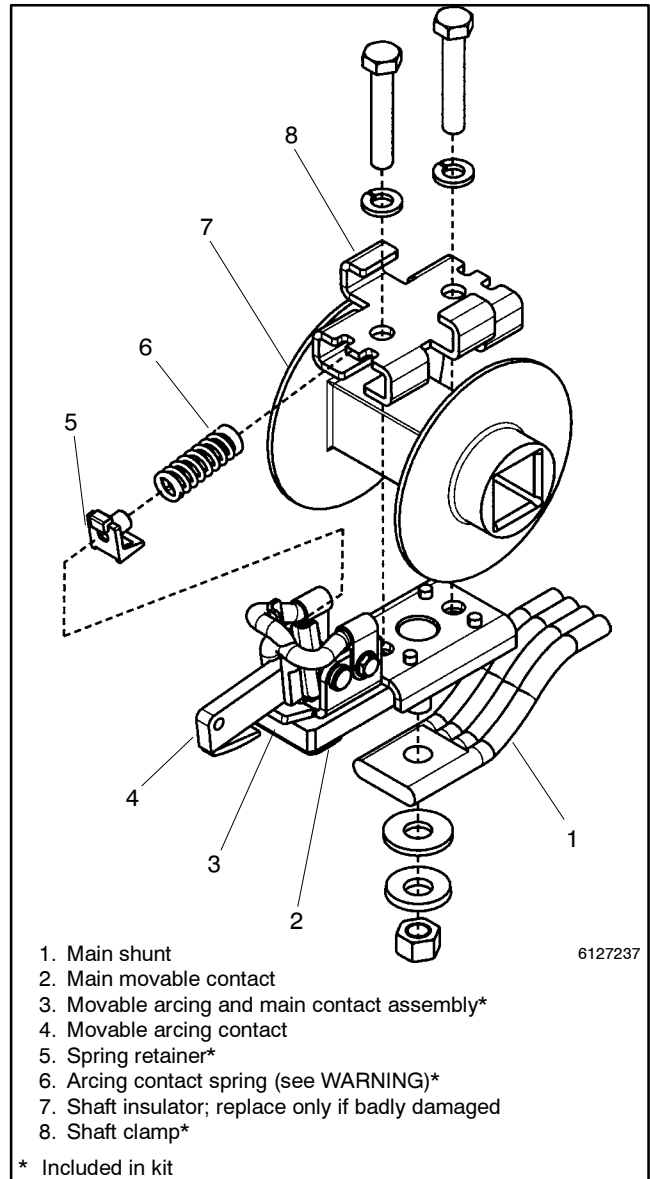

Figure 8-13 Movable Main Contact Assembly
2. Disconnect the main shunt. Use a 3/8 in. open-end or box wrench to remove the hex nut (with disc and flat washers) that secures the main shunt to the bottom of the main movable contact assembly. See Figure 8-13.
Then remove the spring and spring retainer. See Figure 8-13.
4. Disconnect the main shunt. Use a 3/8 in. open-end or box wrench to remove the hex nut (with disc and flat washers) that secures the main shunt to the bottom of the main movable contact assembly. See Figure 8-13.
5. Remove the shaft clamp and movable contact assembly. Use a 5/16 in. socket wrench to remove the two hex head bolts (with lock washers) that secure the movable contact assembly and shaft clamp to the shaft. See Figure 8-13.
6. Install the new movable contact assembly. Position the new movable contact assembly under the shaft (align protrusions on both side). Secure it by installing the new shaft clamp and the new 5/16-18 x 1 3/4 in. long hex head bolts with split lock washers. Tighten both bolts to 5 ft. lb., then continue tightening them to 11 ft. lb. See Figure 8-13.
7. Reconnect the main shunt. Make sure the main shunt and new movable contact assembly surfaces are clean (do not use any abrasive). Position the main shunt under the movable contact assembly (onto the stud) and secure it with a new 3/8 in. flat washer, new 3/8 in. disc washer (curved surface toward nut), and new 3/8 in. hex nut. Use a 3/8 in. open-end or box wrench to tighten nut (cw). See Figure 8-13.
8. Install the new movable arcing contact spring. Install the new spring retainer onto the tab on the spring bracket. Then use a screwdriver (or spring compressor) to carefully install the new movable arcing contact spring between spring retainer and the tab on the shaft clamp. See Figure 8-13. See the the Note above first!
4. Reinstall the stationary contact assembly. Make sure the bus plate and contact assembly surfaces are clean (do not use any abrasive). Position the stationary contact assembly onto the stud in the bus plate. Use a 3/8 in. socket wrench with 12 in. extension to install the quick connect terminal plate, heavy flat washer, new heavy disc washer (curved surface out), and 3/8 in. hex nut to secure the assembly. Tighten to 27.1 Nm (20 ft. lb.) torque. See Figure 8-13.